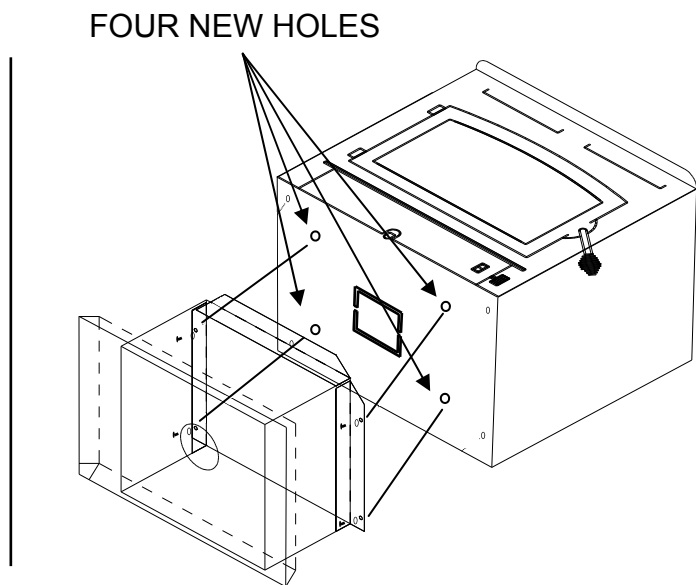

Figure 4A
7. If pedestal kit is being used,(and outside air is required See Page 25) open the corresponding freestanding kit and obtain the stand. Place the stand against the bottom of the heater (angle side to heater).Center stand front to rear ,and also center the stand left and right ,and mark screw locations on bottom of the stove through outer holes of stand mounting angles. Set stand aside and drill four 7/32" holes in heater bottom. Then mount stand to bottom of heater with screws provided. (See Figure 4A.)
8. Obtain four (4) 3/16" self-tapping screws and secure the stand to the heater.